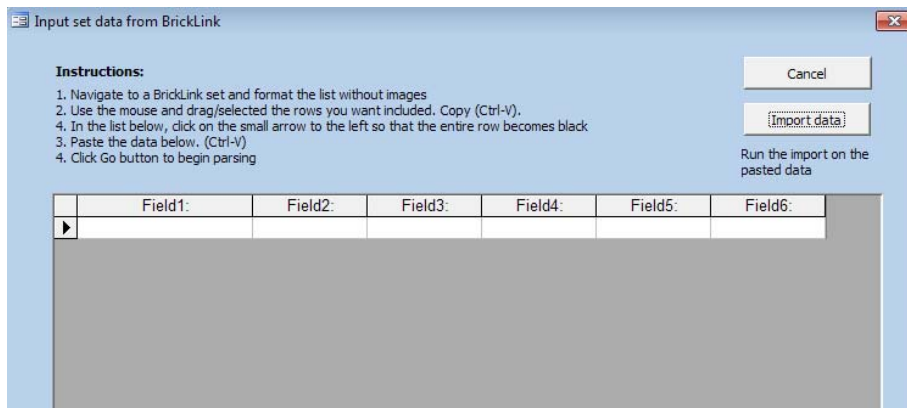

Figure 8 - Import BrickLink sets screen
1. Click the blue “Populate date list with...” Link to open the “Input Set data from BL” window. The Input from BrickLink screen will open Figure 8